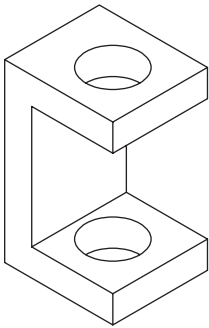

Fig. 7.20 First example – isometric drawing
First example – isometric drawing (Fig. 7.20)
5. Set the isoplane to **Isoplane Right** and with the **Copy** tool, copy the top with its ellipse vertically downwards three times as shown in Fig. 7.20.
7. Finally using **Trim** remove unwanted parts of lines and ellipses to produce Fig. 7.20.